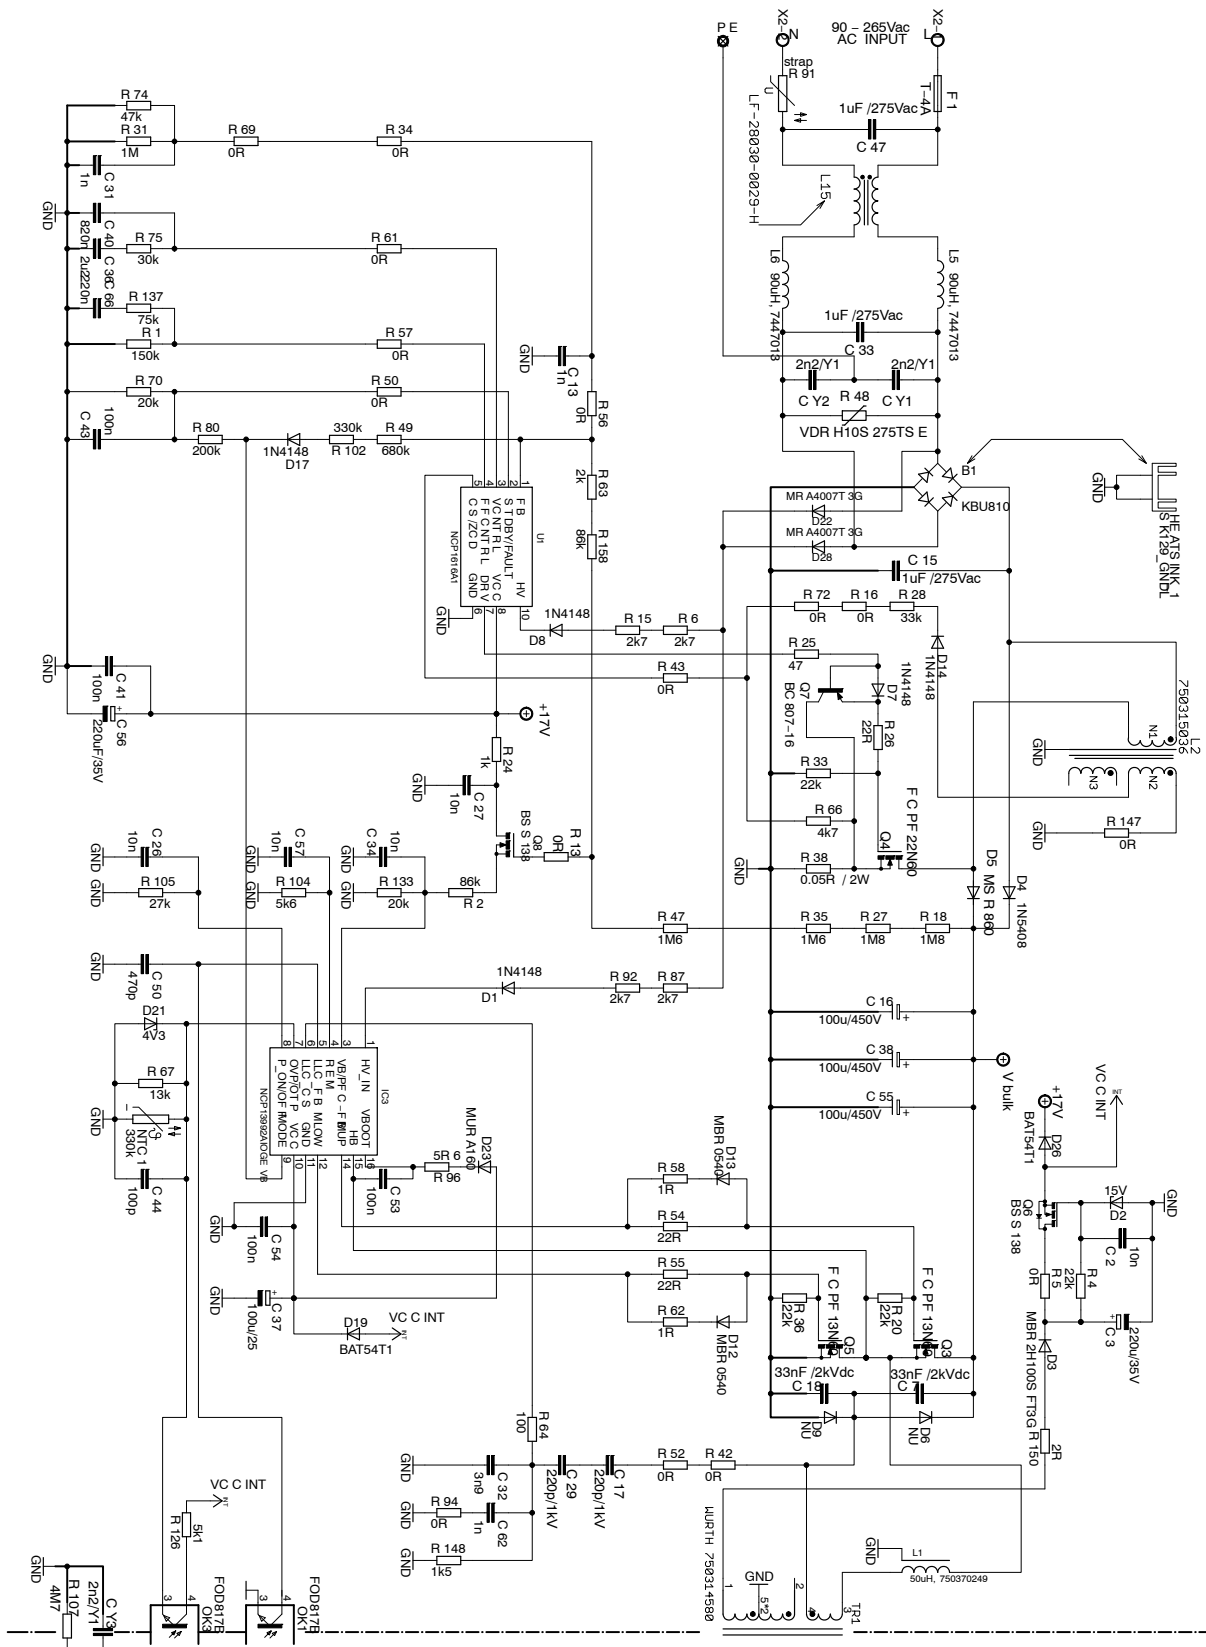

Figure 2. AOI Demo-board Schematic – Primary Side
The input EMI filter is formed by components L15, L5, L6, C47, C33, CY1, CY2 and R48 – refer to Figure 2. The inrush current limiting resistor R91 is substituted by strap in this demo revision – one can replace it by appropriate NTC inrush current limiter if needed. The U1 – NCP1616 (Figure 2) with diodes D22, D28 and resistors R6, R15 is used to X2 capacitor discharge function after application is disconnected from the mains. This circuit also provides PFC Vcc Start-up feature and input voltage sensing, also is partly shared for the LLC controller IC. The Power Factor Corrector (PFC) power stage uses standard boost PFC topology formed by power components B1, C15, L2, D4, D5, Q4, R38, and bulk capacitors C16, C38, C55. The PFC controller U1 (NCP1616) senses input voltage directly via pin 10 (HV) through network above mentioned. The PFC inductor current is sensed by the shunt resistor R38. The series resistor R38 sets maximum PFC front stage peak current. Maximum peak current level is to 10 A. The PFC feedback divider is shared with LLC brown-out sensing network in order to reduce application no-load power consumption. The PFC FB divider is formed by resistors R18, R27, R35, R47, R158, R63, R56, R34, R69, R74 and R31. The FB signal is filtered by capacitor C13 and C31 to overcome possible difficulties caused by the parasitic capacitive coupling between pin and other nodes that handle high dV/dt signals. The internal bulk voltage regulator compensation C40, C36, R75 is connected through R61 to the U1 pin 3. The PFC MOSFET is driven via circuitry R25, D7, R26, R33 and Q7. This solution enables to define needed turn-on and turn-off process speed for Q4. The PNP transistor Q7 is connected directly source of Q4 (not through sensing shunt R38) to minimize discharge loop and thus allow fast turn off PFC switch and also minimizing EMI caused by the driver loop. The PFC coil auxiliary winding voltage after rectifying with D14 provides ZCD signal for PFC controller. The NCP1616 has shared pin 5 – CS/ZCD for current limit and zero current detection. During turned-on Q4 is sensed and limited maximum input current and after turning-off Q4 is detected zero current condition. The resistance of R66 should be bigger than 3.9 kΩ to avoid wrong detection of destroyed R38. Also, resistance R28 should be reasonable high enough to limit no-load and light-load consumption.